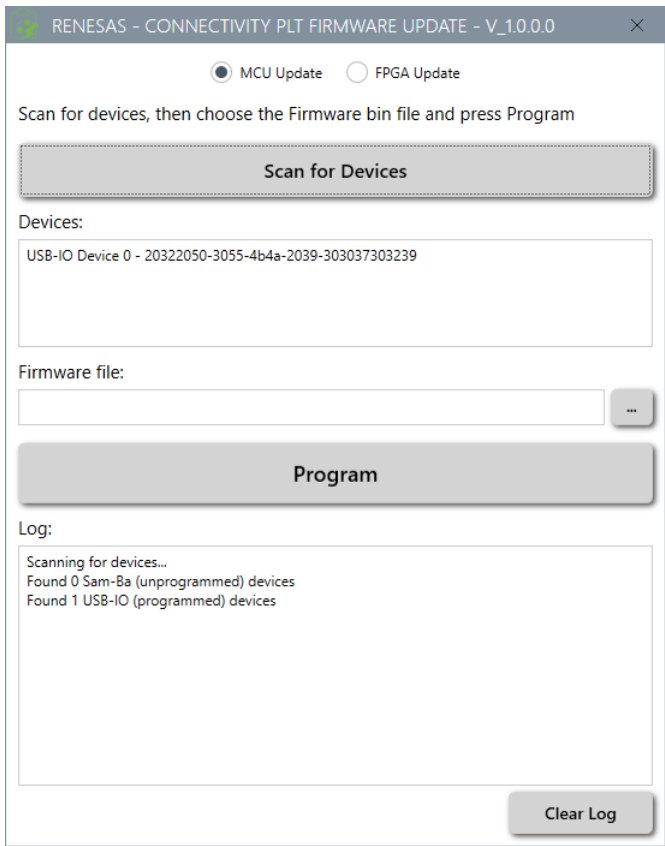

Figure 113. Device detection
2. If the hardware is connected correctly, you should see from one to four USB-IO devices corresponding to each connected PLT board, see Figure 113.